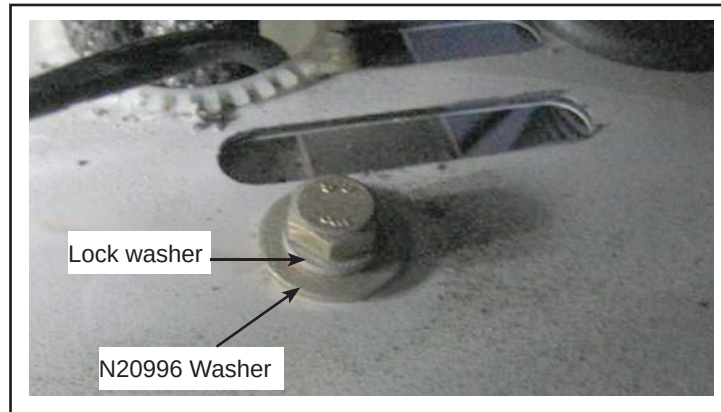

Figure 3 - New N20996 Washer Installation
- 1.6. Install the screw and lockwasher. Use the retained hardware. See Figure 3.